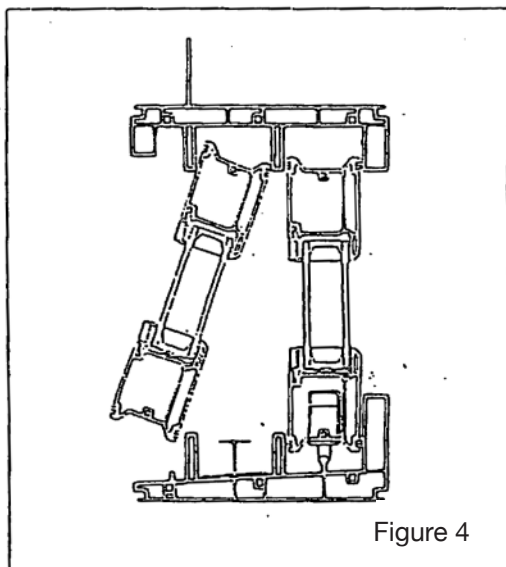

Figure 4
B. Installing the Fixed Panel *(Figure 4)*